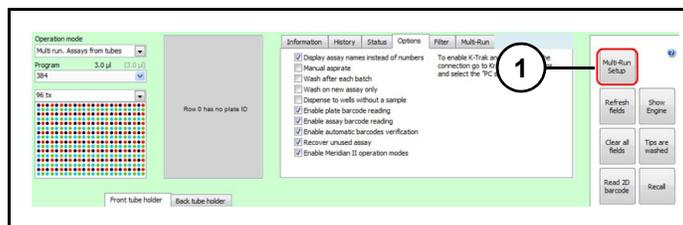

Figure 48
3. Click "Multi-Run Setup" (1) (Figure 48).